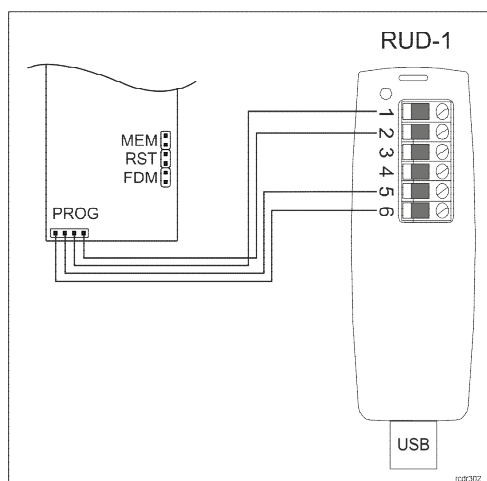

Fig. 6. Connection of lock to the RUD-1 interface
2. Connect the lock to RUD-1 interface using dedicated cable (fig. 6).